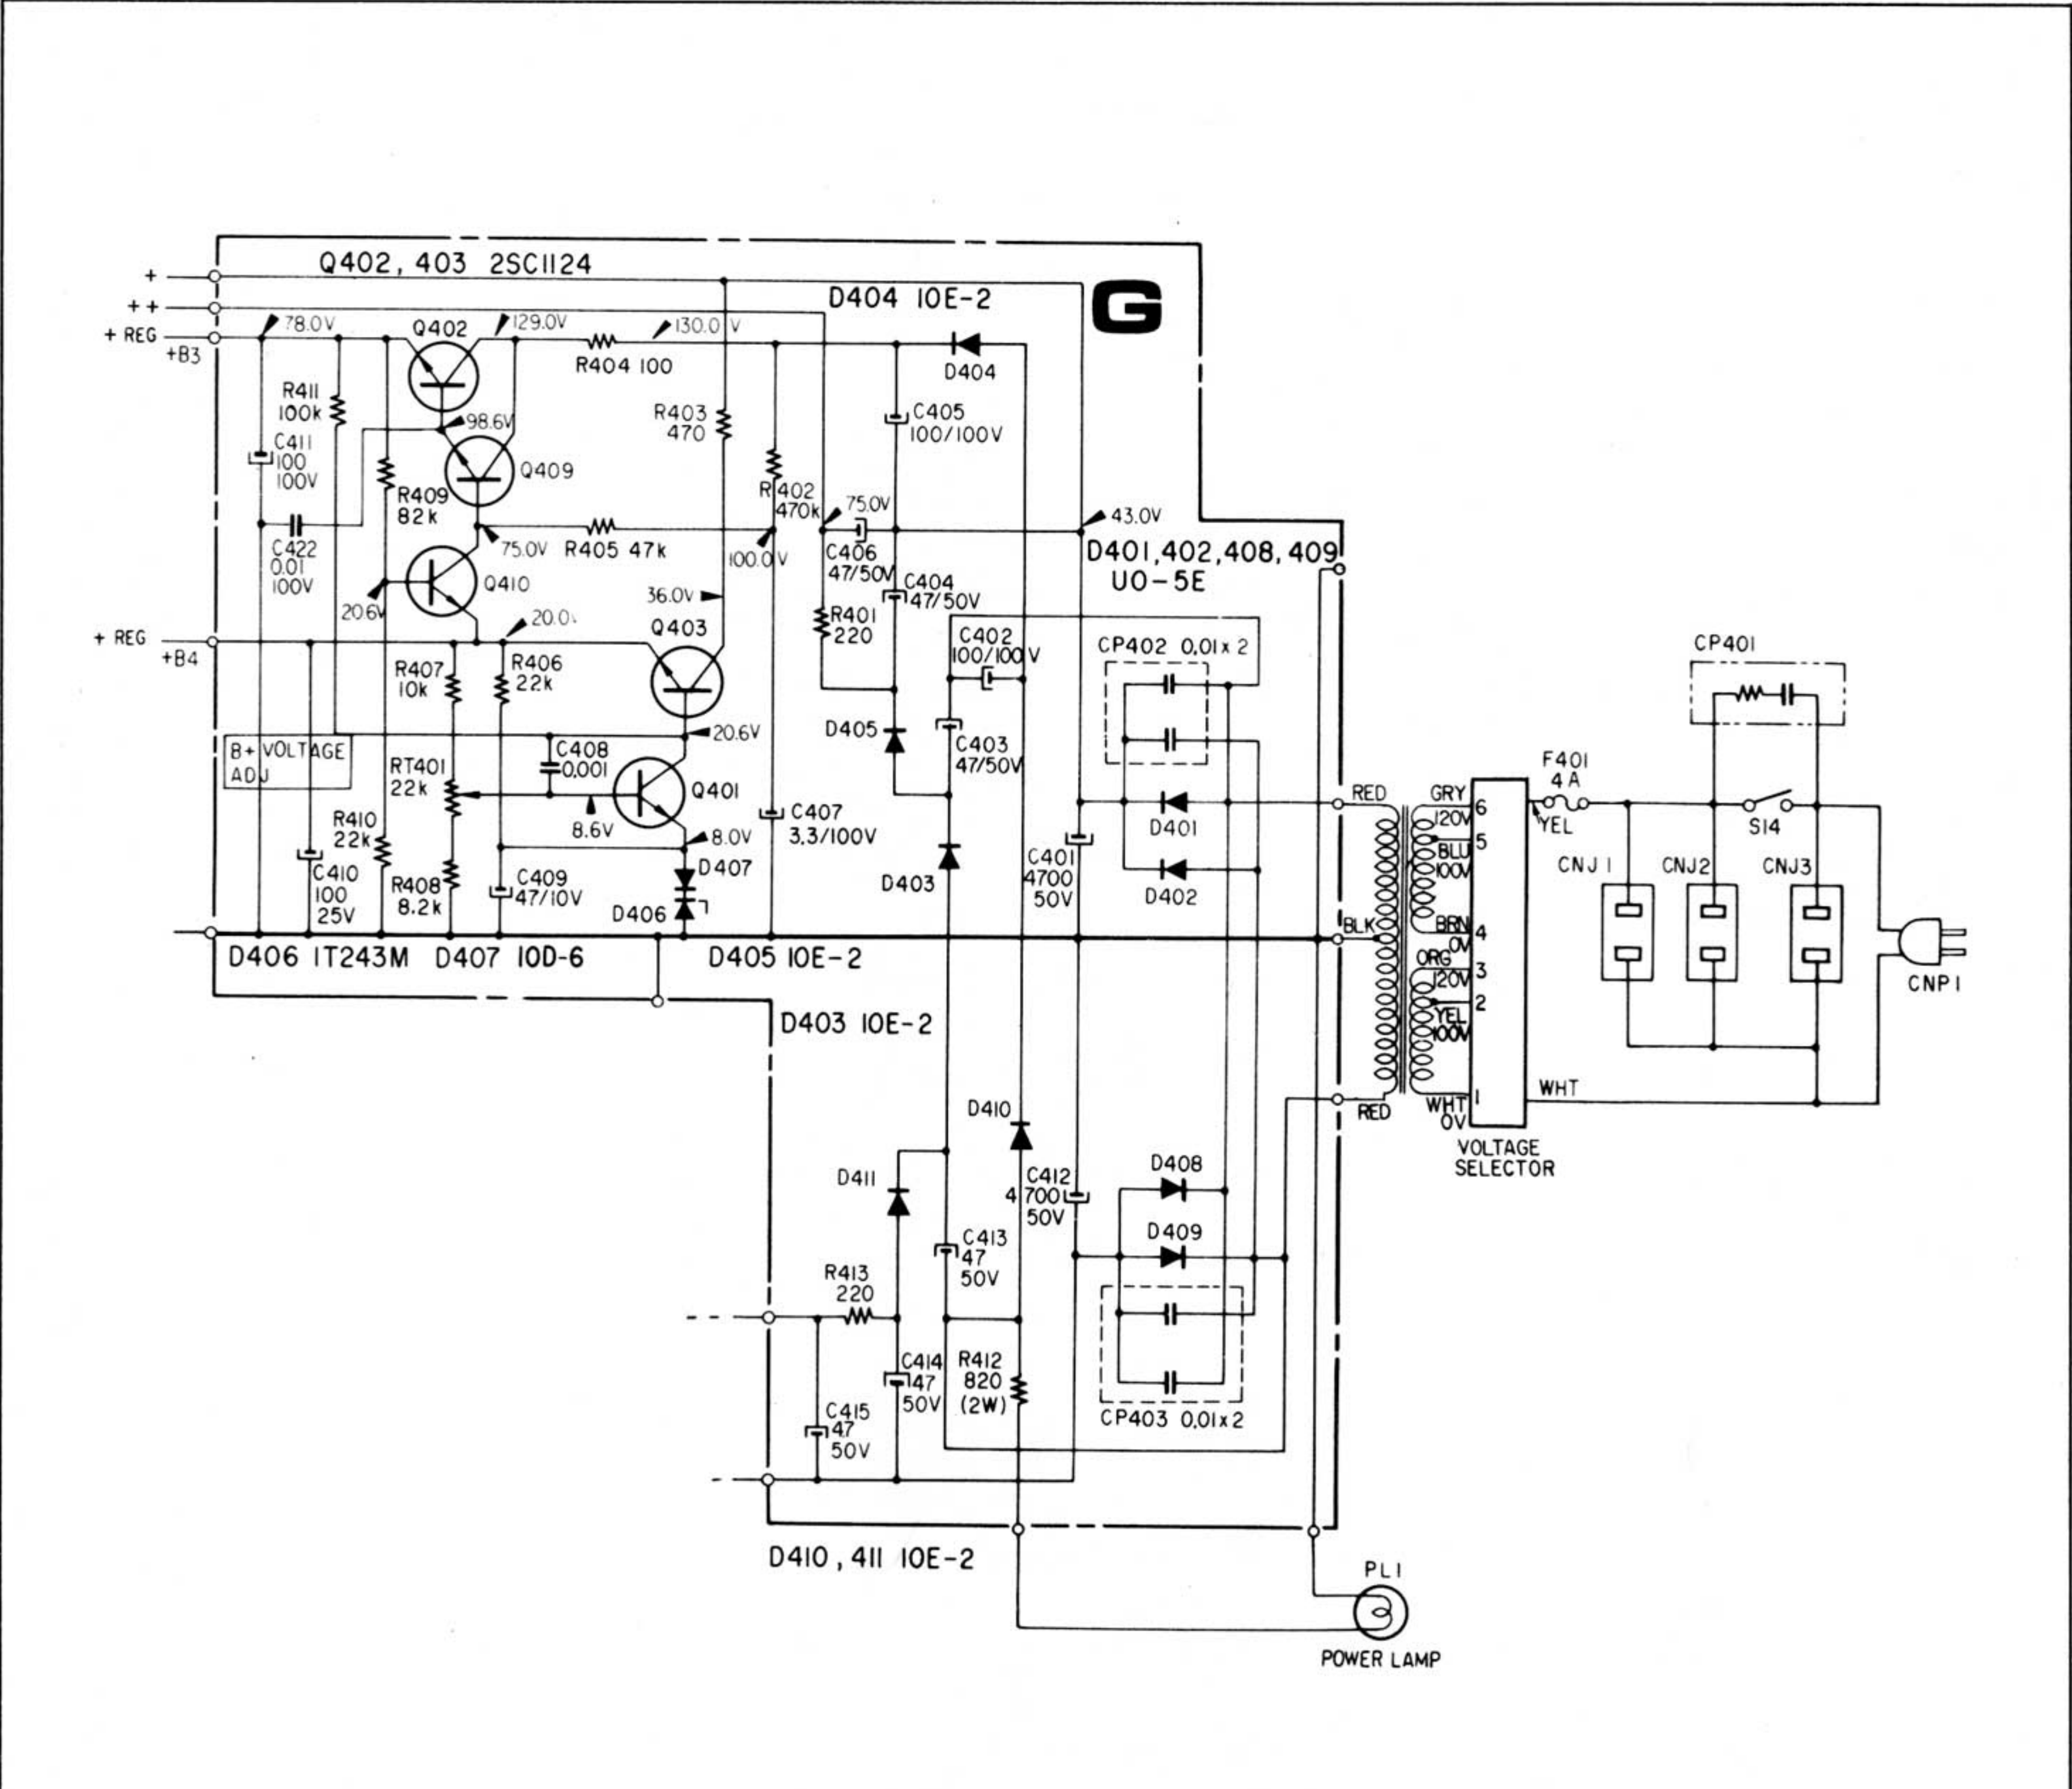

Fig. 5 Power Supply Schematic
**Regulators.** The LV (low-voltage) regulator operates from the main (+ 43V) positive supply (See Fig. 5) The circuit is fairly standard: transistor Q403 is the series pass element, transistor Q401 is the error detector and control amplifier, and zener diode D406 is the reference voltage source (temperature stabilized by diode D407). However, Q401's load resistor (R411) is returned to the HV (high-voltage) regulator output. This yields improved line regulation for the LV regulator, and ensures that the HV regulator transistors will not be reverse biased (and thereby damaged) by the LV regulator coming up its full output voltage (+20V) before the HV regulator exceeds this level.